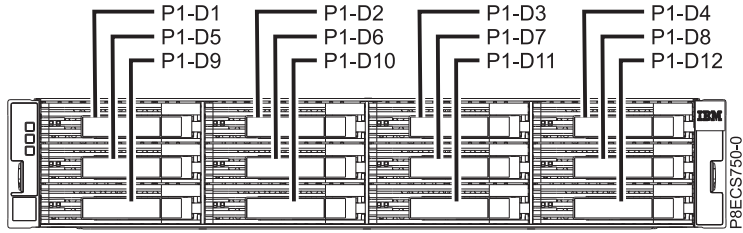
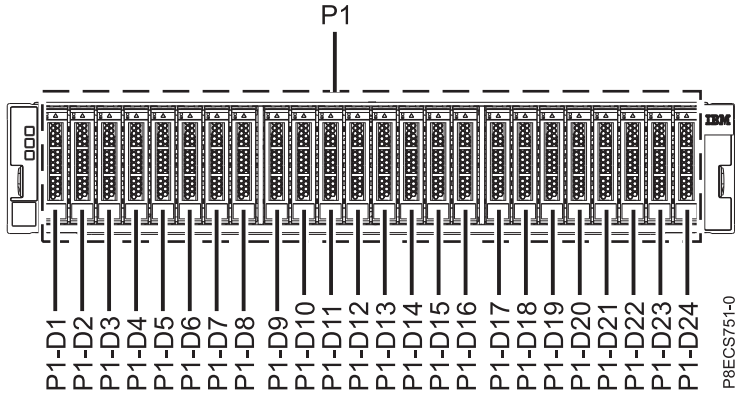
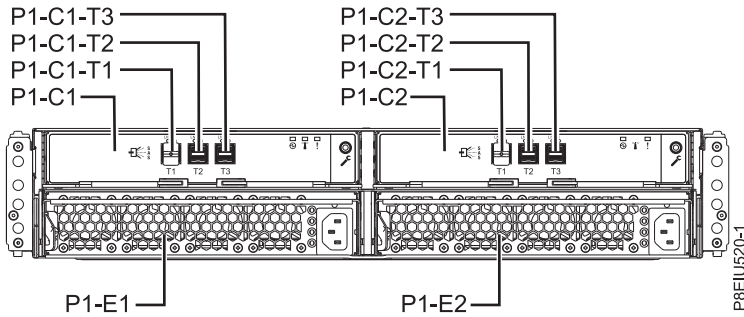
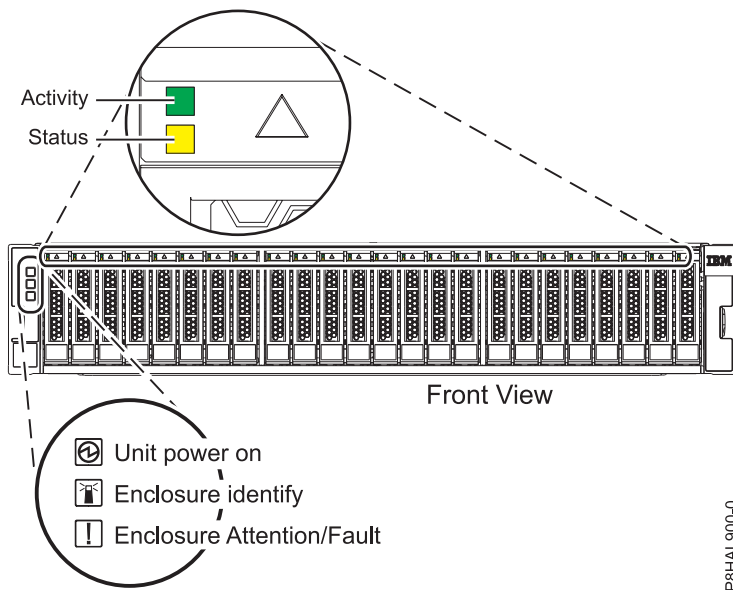

Figure 30. Front view of the ESLL storage enclosure showing the disk drive locations
Figure 31. Front view of the ESLS storage enclosure showing the drive locations
Figure 32. Rear view of the enclosure
Figure 33. Front view of the enclosure showing the service indicators
3. Identify the part and the enclosure that you want to service. The disk drive and SSD slots are located in the front of the enclosure. Figure 30 on page 27 shows the front of the ESLL storage enclosure, Figure 31 on page 27 shows the front of the ESLS storage enclosure, Figure 32 on page 27 shows the rear view of the storage enclosures, and Figure 33 on page 28 shows the locations of the service indicators for the storage enclosures.